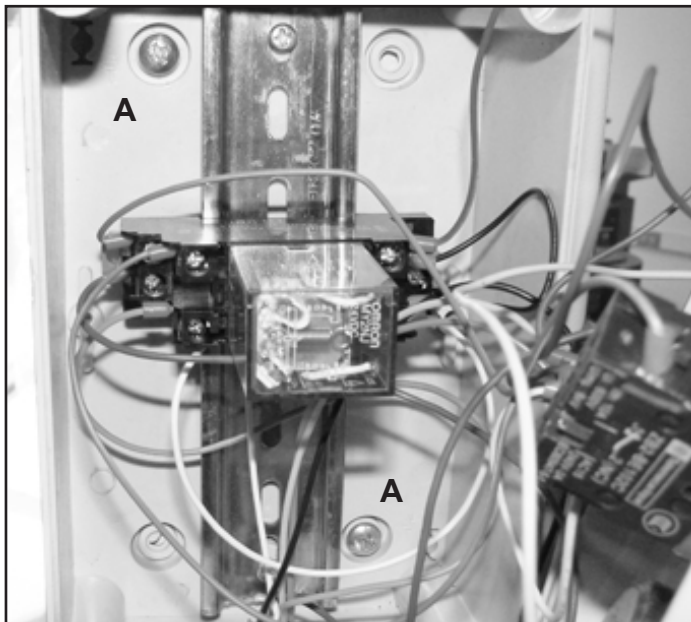

FIG. 4
3. Mount the switch to the front of the band saw column by using the corresponding holes in the back of the switch box. FIG. 4, A. Use the same two screws that were removed from the frame shown in Fig. 2, step #1 to mount the switch box to the column.